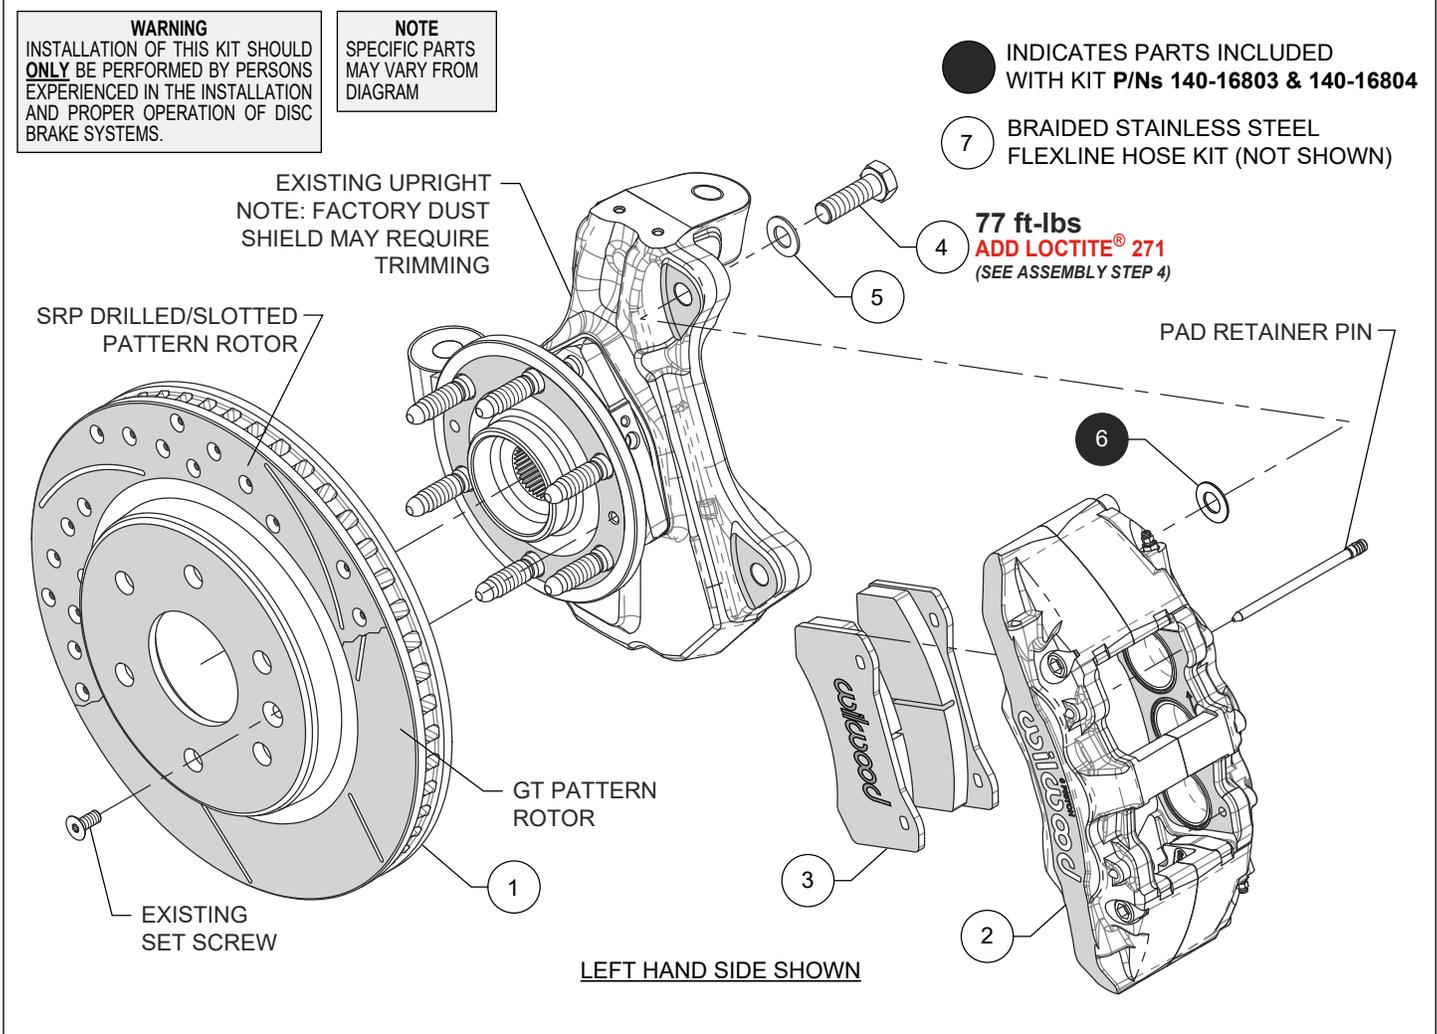

Figure 1. Typical Installation Configuration
Numbers in parenthesis refer to the parts list and Figure 1 on the preceding pages.
**STEP 1** Slide the rotor (1) onto the hub. **NOTE:** The rotor must fit flush against the hub flange or excessive rotor run out may result. Install the OEM set screw to keep the rotor in place while continuing with the installation, Figure 1 and Photo 1.
**STEP 2** This step for 1999-2006 GM 1500 (p/n 140-16803) and 2007-2018 GM 1500 (p/n 140-16804 only: Initially place one .029" thick shim (6) on each bolt (4) between the caliper (2) and the OEM caliper mounting bosses, Figure 1. Temporarily tighten the mounting bolts and view the rotor (1) through the top opening of the caliper. The rotor should be centered in the caliper, Photo 2. If not, adjust by adding or subtracting shims (6) between the bracket and the caliper. Always use the same amount of shims on each of the two mounting bolts. Once the caliper alignment is correct, remove the mounting bolts and caliper.
**STEP 3** Remove the two pad retaining pins from the caliper (2). Insert the brake pads (3) into the caliper, with the friction material
facing the rotor. Secure the brake pads in place with the pad retaining pins, Figure 1 and Photo 3. **CAUTION:** *Ensure pad retaining pins are completely engaged into caliper, Photo 4.* It is recommended to use a small flat punch and hammer to tap the pins in until they are fully seated.
**STEP 4** Mount the caliper (2) onto the OEM caliper mounting bosses using bolts (4) and washers (5), as shown in Figure 1 and Photo 5. Apply red *Loctite*® 271 to bolt threads, and torque to value shown in Figure 1.
**STEP 6** Attach brake line to caliper. **NOTE:** *OEM rubber brake hoses generally cannot be adapted to Wilwood calipers.* Install Wilwood's stainless steel braided flexline hose kit (6) that is included with this kit. See below for more info on flexline kits.